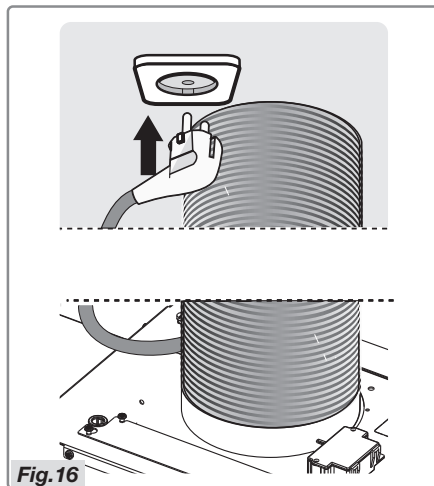

Fig. 16
- Insert the plug into the disconnected wall socket (Fig. 16).